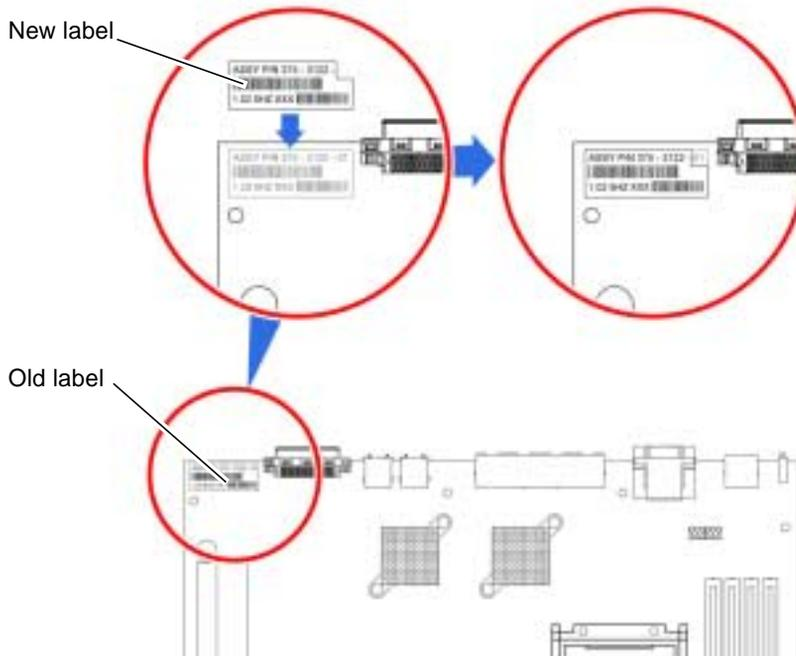

FIGURE 2-5 Placing the system board label
1. Apply the system board label on top of the old one, leaving the revision number from the old sticker visible. (The revision number is the final two digits of the sequence xxx-xxxx-xx.) See FIGURE 2-5.